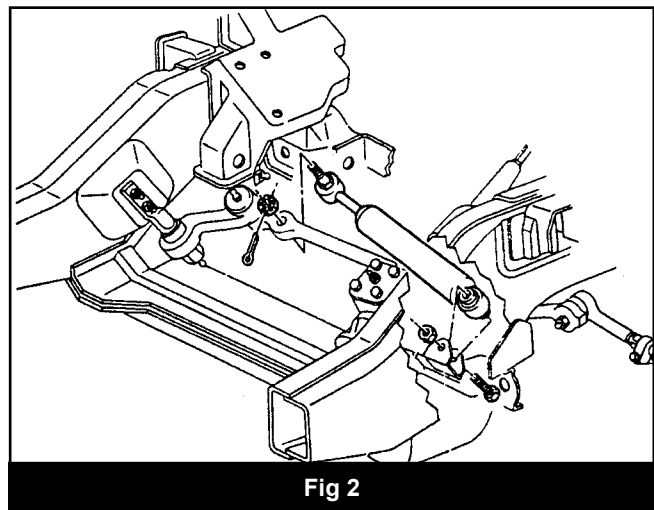

Fig 2
6. Attach the rod end of the shock to the center link using the existing hole and the tapered stud kit provided. Torque to 40 ft/lbs. (Fig. 2)